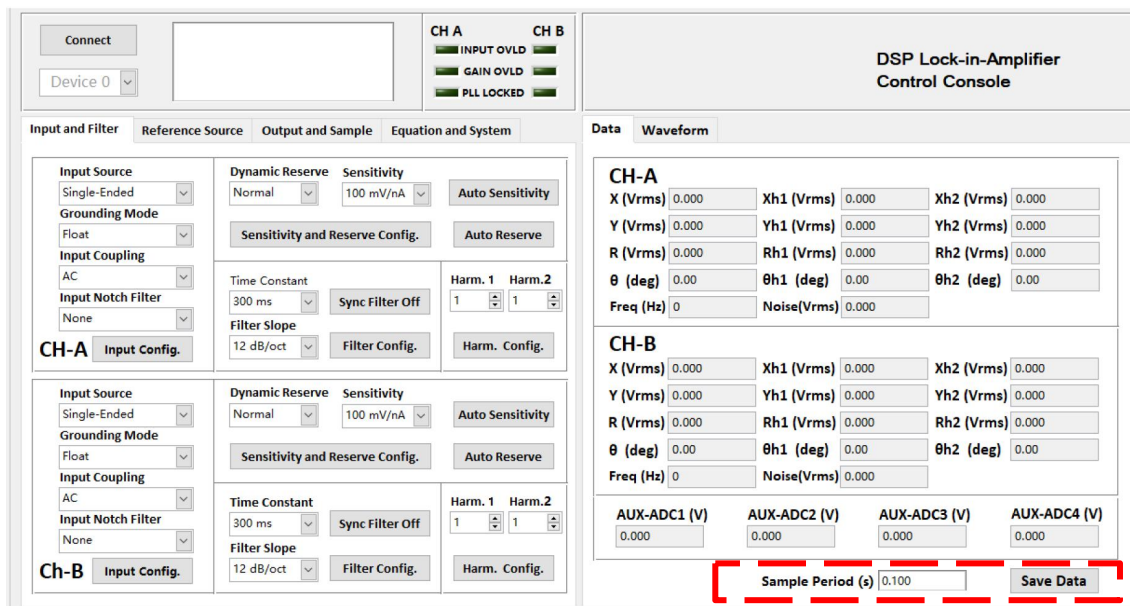

Fig.71 The Configuration Area of Data Storage
- (1) The data is saved in Excel. The file name is 'Data_recorded_excel.xls'. It is saved in the program directory.
- (2) When the software is executing, click the button **Save Data** in the red box in Fig.71. After clicking this button and it displays **Saving...**. The software is saving the current collected data.
- (3) Click the button **Saving...** again, and the button status will switch back to again. This means the software stops saving collected data.
- (4) In **Sample Period (s)** 0.100, you can modify the sampling rate of the current display and data storage. The input range is 0.1s to 100s.